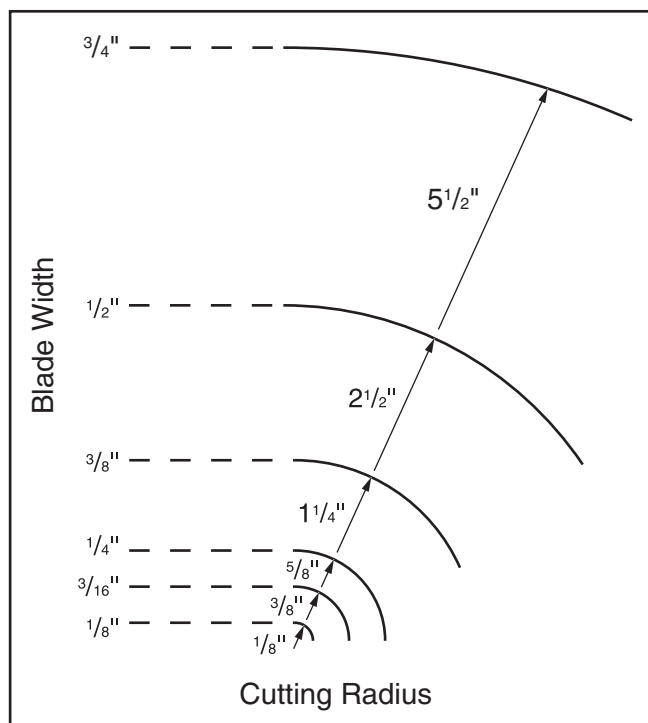

Figure 69. Recommended cutting radius per blade width.
- **Curve Cutting:** Use the chart in **Figure 69** to determine the correct blade for curve cutting. Determine the smallest radius curve that will be cut on your workpiece and use the corresponding blade width (refer to **Cutting Curves** on **Page 56** for more information).